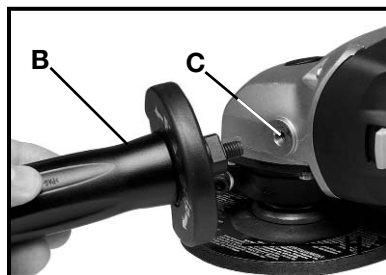

Fig. 2
An auxiliary handle (B) Fig. 2 is furnished with your tool and can be installed on either side of the front housing (C) Fig. 2. This handle **SHOULD BE USED AT ALL TIMES** to maintain complete control of the machine.